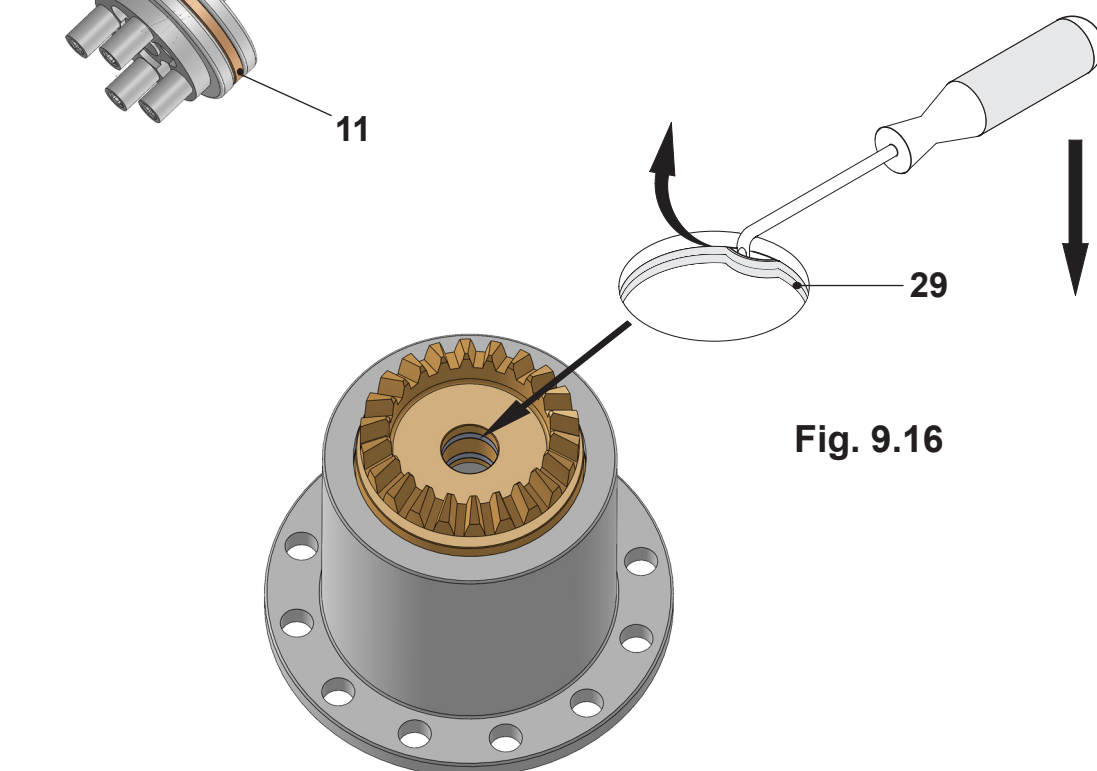

Fig. 9.16
9.4.7) Using the dedicated tool, remove the seals and the O-rings pos.29 from their seats (Fig.9.16).